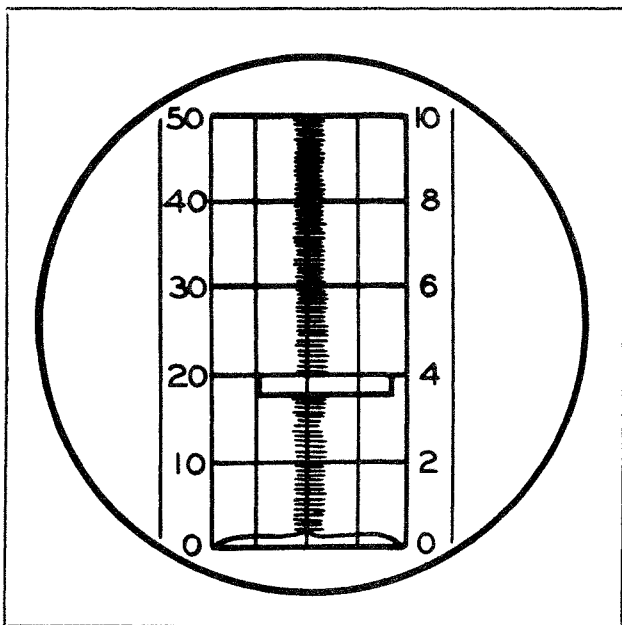

Figure 3-2. Indicator Screen, Beacon to Right of Airplane Heading
(8) If the signal on the right of the center line is larger, the beacon is to the right of the line of flight of the airplane and turning the airplane to the right will equalize the right and left signals. If the signal on the left of the center line is larger, turning to the left will equalize the signals. (See fig. 3-2.)
(9) The range is reduced, as the airplane approaches the beacon, by changing the position of the "RANGE" switch.